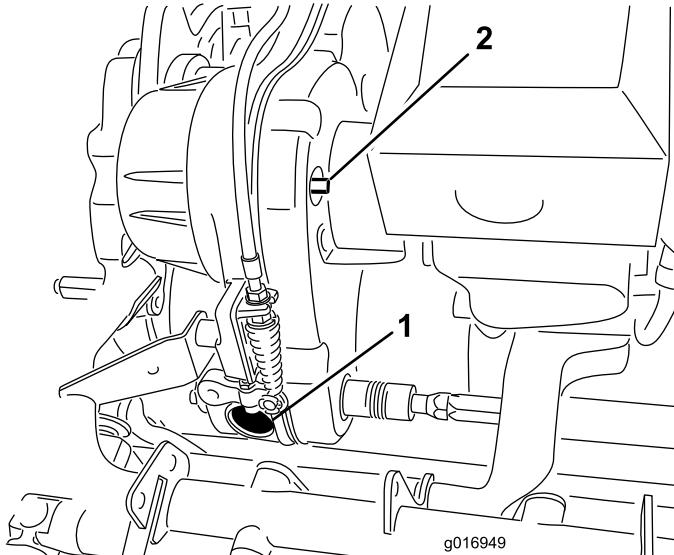
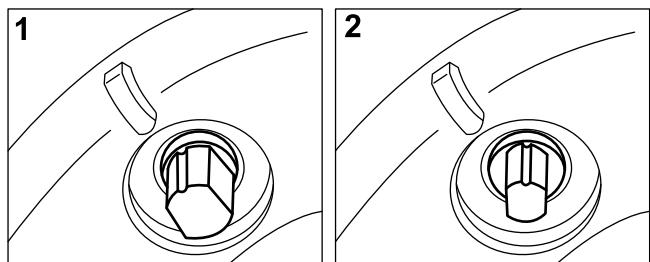

Figure 44
Figure 45
Remove the rubber plug (Figure 44) from the hole in the front of the transmission if access to the clutch is needed.
The transmission belt is tensioned by a spring loaded idler pulley. If the belt tension has to be engaged/disengaged, use a 3/8 inch wrench to rotate the engage/disengage shaft (Figure 44) to the desired position. Rotating the shaft 1/4 turn clockwise will disengage the idler from the belt (Figure 45).
**Note:** Remove the rubber plug (Figure 44) from the hole in the front of the transmission to view reel clutch.